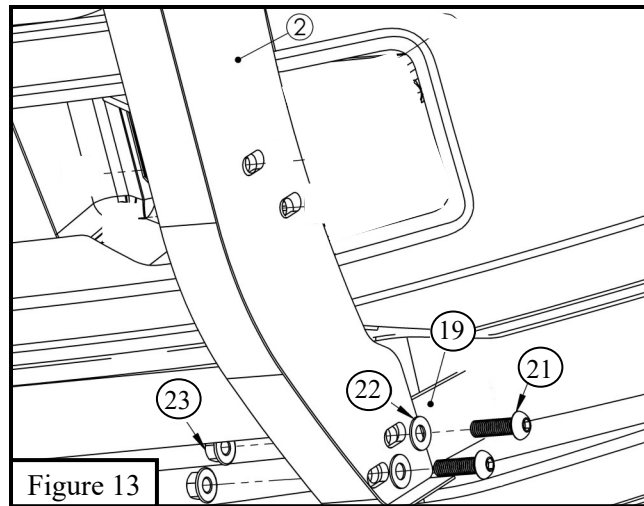

Figure 13
- Locate (1) Bumper Bracket (Item 4/5) and loosely secure onto vehicle frame and Lower Mount Bracket using (2) M10 hex head cap screws, (2) M10 split lock washers, (2) M10 flat washers, (2) M12 flat washers, (2) M12 lock washers, and (2) M12 hex nuts. See Figures 13 and 14.